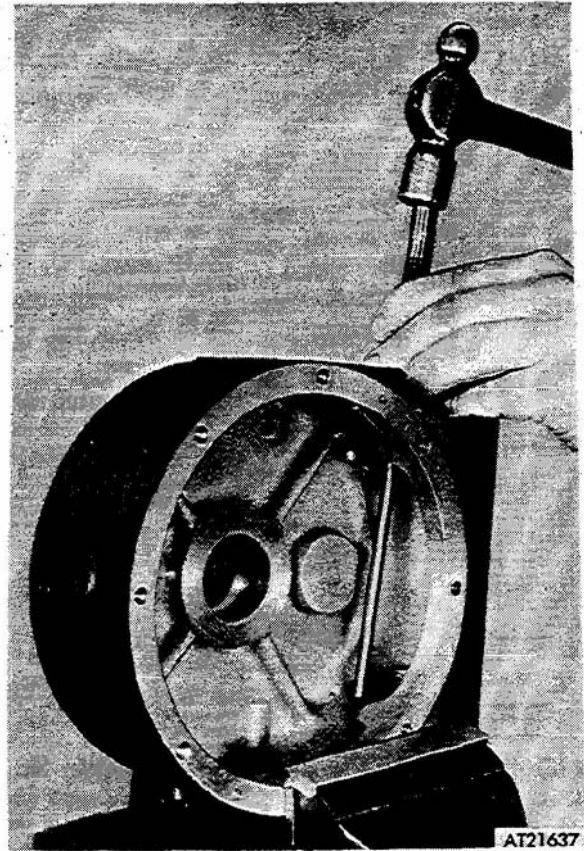

Figure 4-13. Removing bearing races.
(28) Remove bearing *races* of input shaft bearings (5 and 23, fig 4-10) from *gear housing* (6) as shown in figure 4-13.